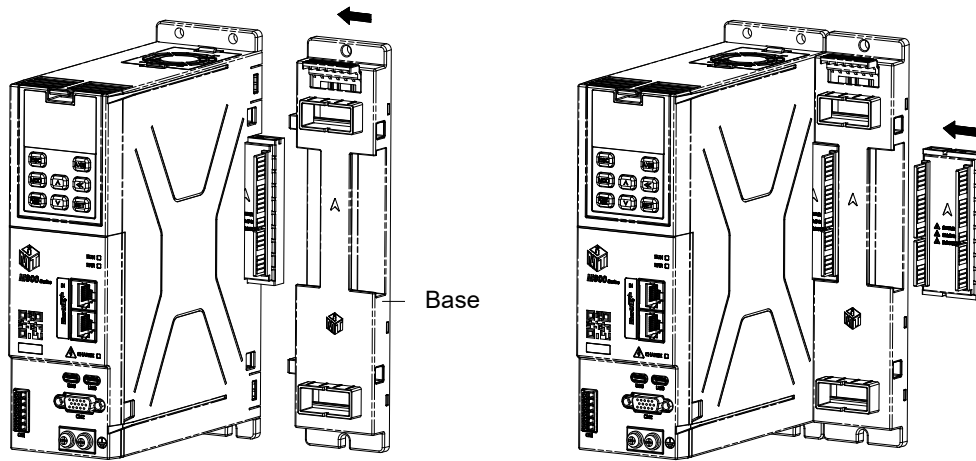

Figure 4-5 Install the baseplate and connector
2. As shown in Figure 4-5, insert the first baseplate from the right side of the power module until the left side of the baseplate is tightly attached to the right side of the power module. When inserting, pay attention to the correct direction of the baseplate. After completing the above actions, insert the second connector from the right side until it is tightly attached to the slot on the bottom plate. When inserting, pay attention to the correct direction of the connector.